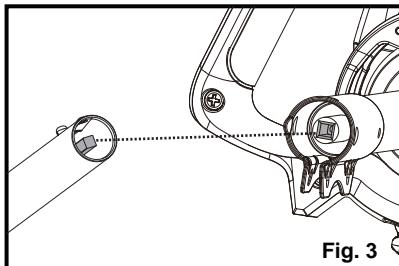

Fig. 3
- Check to ensure the axles in the shafts are aligned as shown (Fig. 3). If not aligned, slightly rotate the trimmer head to adjust the axle until it aligns.